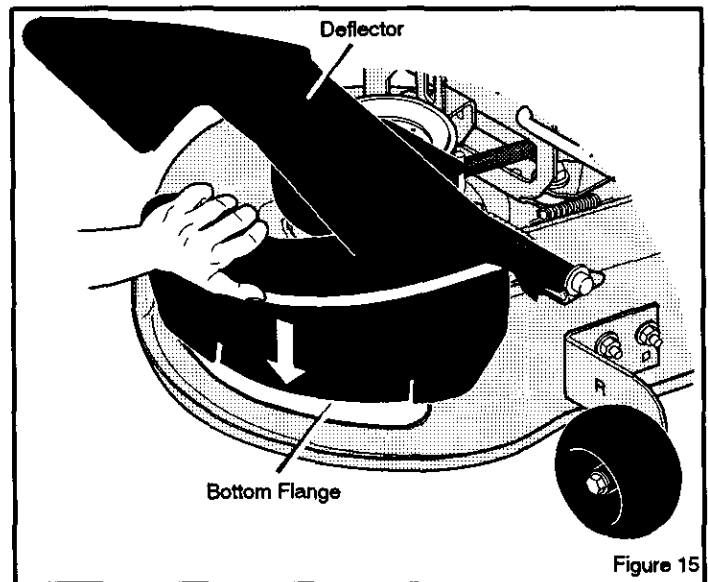

Figure 15
2. Lift the mulcher plate away from the mower housing (Figure 15).
1. Raise the deflector. Mount the bottom flange of the mulcher plate to the mower housing (Figure 15).